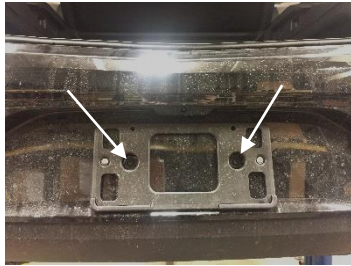

Figure 2
- Bumper fascia removal** – Open the trunk. Use T15 driver to remove (5) screws from wheel well liner each side. Push the liner aside. Using a 7mm socket, remove the screw holding the fascia to the fender each side. Remove the license plate to remove (2) screws with a T15 driver see **Fig. 2**. Remove the taillights to reveal two fascia tabs. Remove the access panel inside the trunk, behind the taillight. Unscrew (2) plastic wingnuts, gently pull on taillight, straight rearward, unplug the taillight. Push down on the fascia tabs to release while gently pulling on the fascia. Using plastic trim tools, gently remove the plastic fascia starting at the outer edges near the wheel wells. Disconnect the wiring from fascia if equipped.